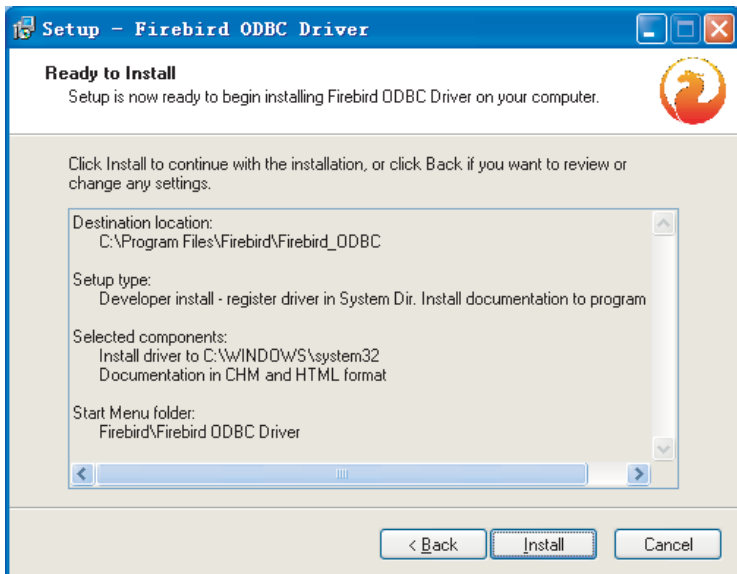

Fig. 2-21
7) Installation window as Fig. 2-21, click “Install” to continue: